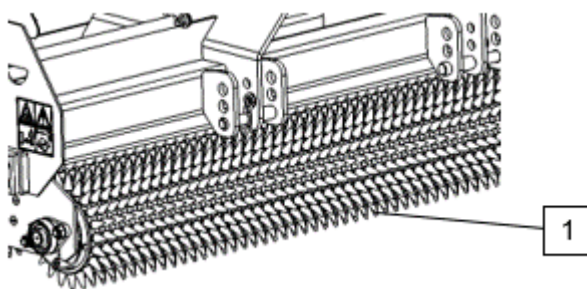

Fig.5-2
- Check that the machine is not damp, especially the sowing system. Check the sowing elements (1) for damage and repair if necessary. (Fig.5-2)